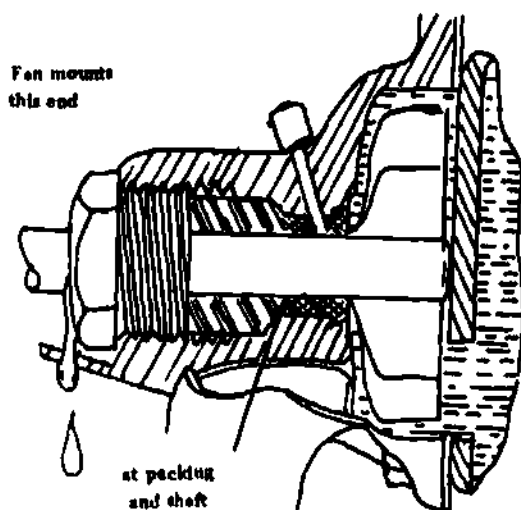

Fig 1-101. Water pump leak.
b. **Water pump.** Leaks occur on the water pump where the shaft extends out through the water pump (fig 1-101).